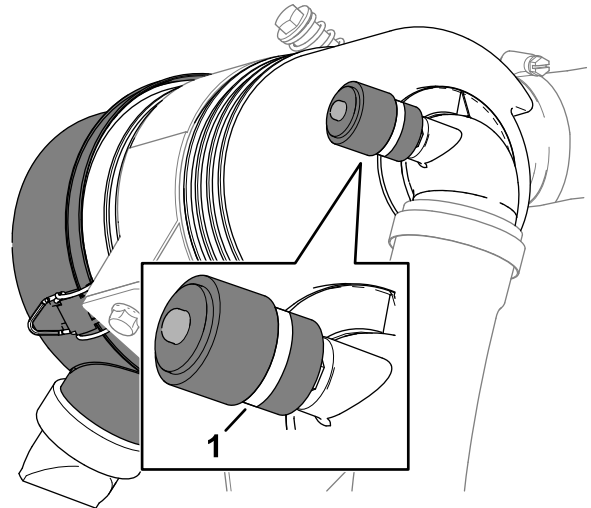

Figure 72
3. Check the service indicator at the end of the air filter housing (Figure 72).